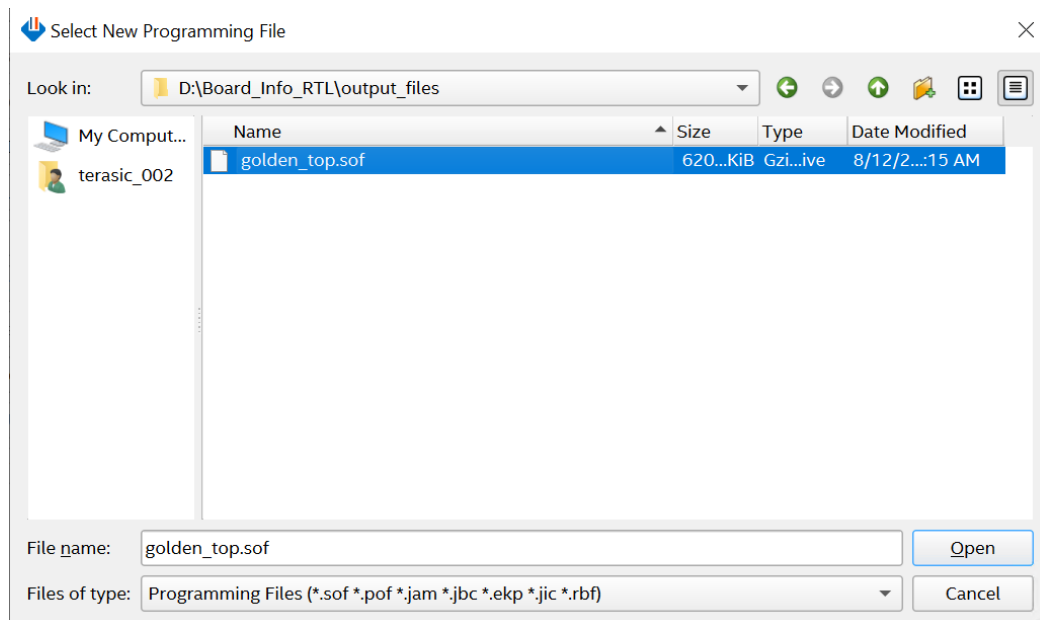

Figure 3-7 Select the .sof file to be programmed into the FPGA device
8. Select the .sof file to be programmed, as shown in **Figure 3-7**.